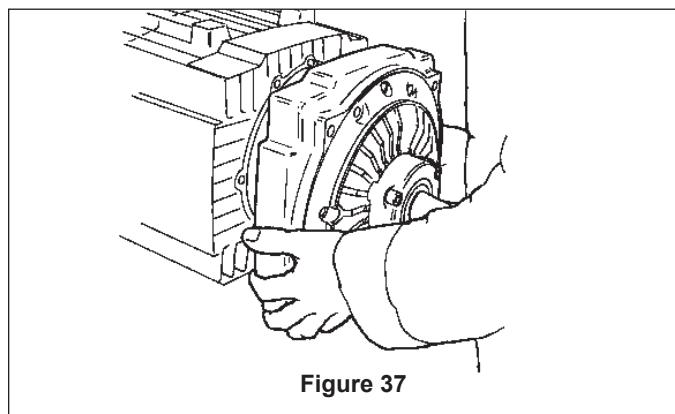
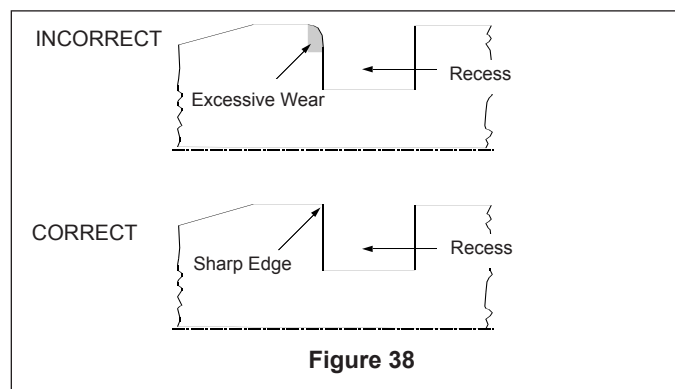

Figure 37
Figure 38
11. Slide the sideplate assembly over the shaft. Remove wooden block and slide sideplate assembly against the body. Be sure to support the rotor when installing the sideplate assembly. Install and tighten the six screws (34) to a torque of 26 lbs ft (35 Nm). See Figure 37.
14. Install both fans (36).
15. Carefully inspect the split shoulders for any damage or wear and ensure recess edges are sharp. Replace if necessary. See Figure 38.
16. When reinstalling the split sleeve, check that it is fully seated in the recess and that the screws are located fully in the thrust sleeve. If there is excessive wear on the shaft recess, it should be redressed so that the edge is sharp. See Figures 38 and 39.